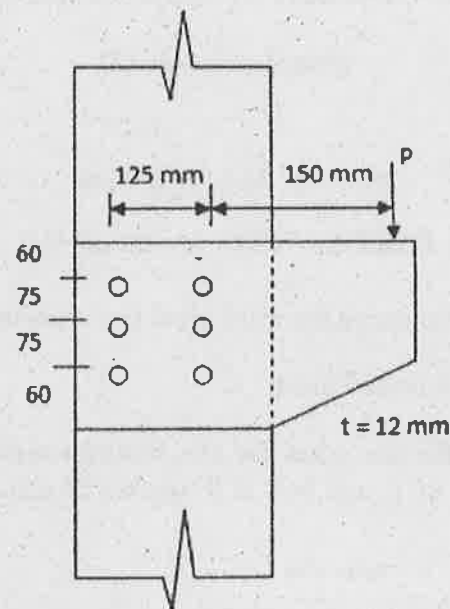

Fig.2
11. (a) A bracket connection is shown in Fig 2 with 24 mm diameter bolts of grade 4.6 and plate of grade Fe 410 steel, determine the safe load (P) that could be transferred through the connection.